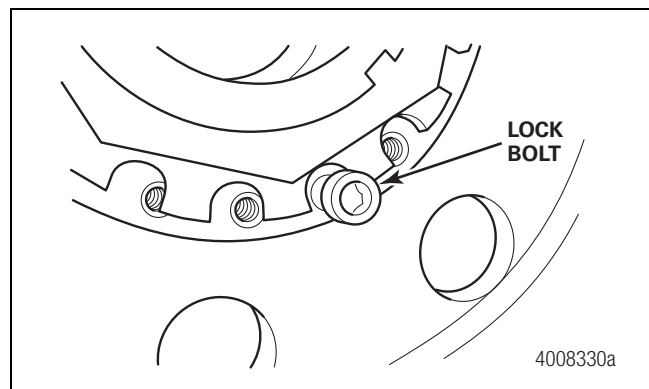

Figure 15.7
10. Apply Loctite® 242 threadlocker to the lock bolt threads. Install the lock bolt through one of the nut slots and tighten to the torque specified in Section 20. Figure 15.7.